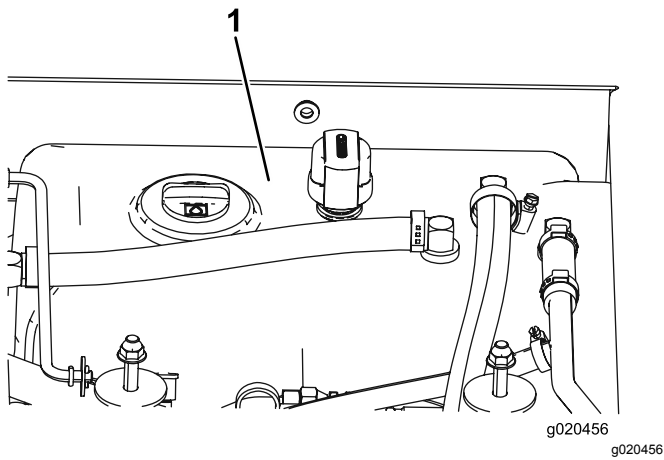

Figure 102
4. Fill the reservoir (Figure 102) with hydraulic fluid; refer to Changing the Hydraulic Fluid \(page 70\).